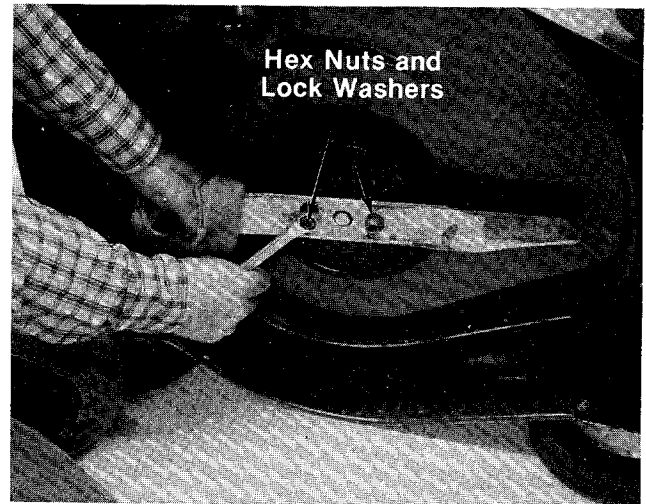

FIGURE 18.
To remove the cutting blade for sharpening or replacement, remove the two hex nuts and lock washers which hold the blade to the blade brake/clutch. See figure 18.
7. Tip the mower on its side. Remove the blade by removing two hex nuts and lock washers. Refer to figure 18.